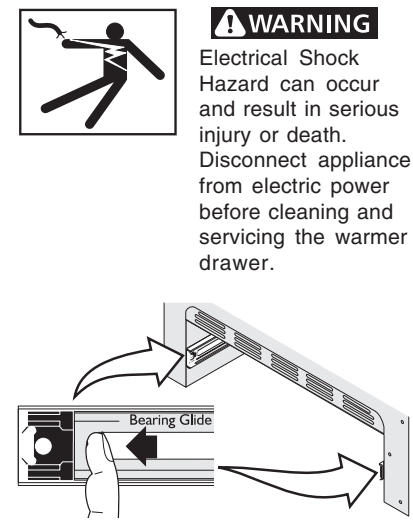

Figure 2
- Pull the bearing glides to the front of the chassis glide (see Figure 2).